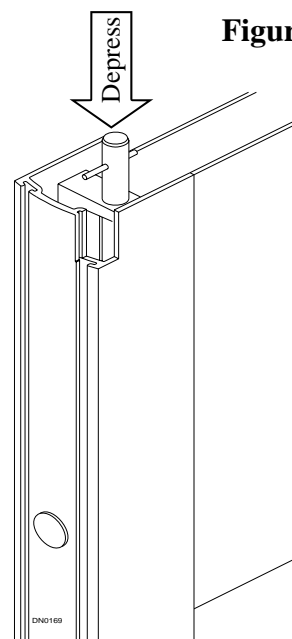
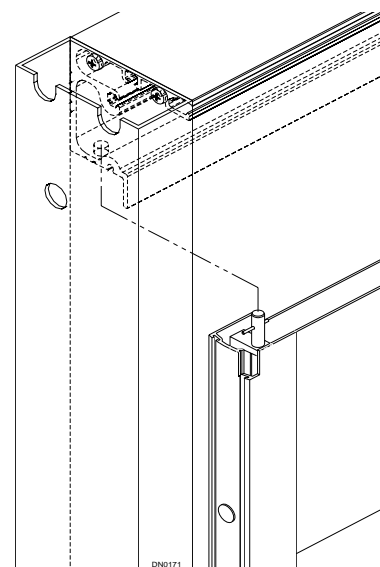

Figure 11
Figure 12
9. Depress the top pivot pin as shown in Figure 11. Insert the top pivot pin into the hole in the bottom of the header (see Figure 12).